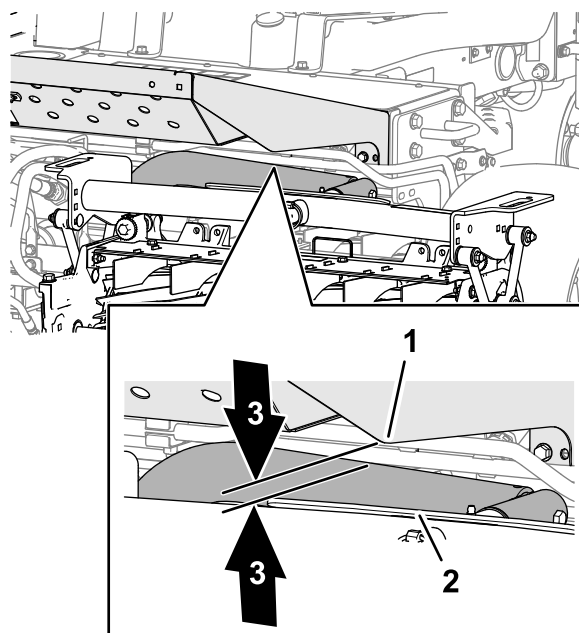

Figure 26
3. At the front cutting units, measure the distance between the left lift arm and the floor plate bracket, and the right lift arm and the floor plate bracket (Figure 26).